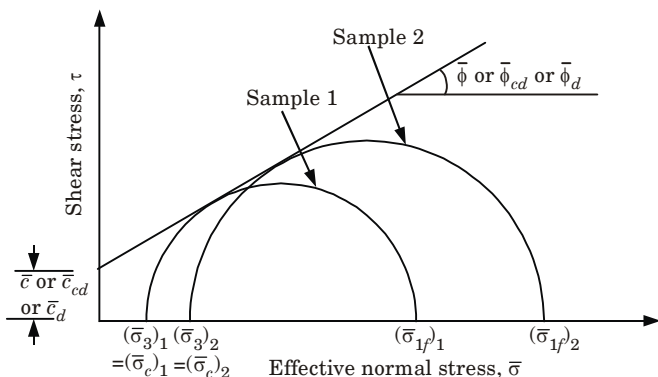

Fig. 4.20.3. Effective stress failure envelope for CD test.
4. Mohr's circles in terms of effective major and minor principal stresses at failure $\bar{\sigma}_{1f}$ and $\bar{\sigma}_{3f} = \bar{\sigma}_c$, respectively, can be drawn to get effective stress parameters. The failure envelope for the test is shown in Fig. 4.20.3.